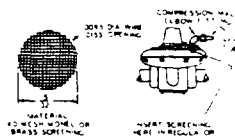

FIG. 24—Flame Check
3. Be sure flame check is in gas pressure regulator as shown in Fig 24.